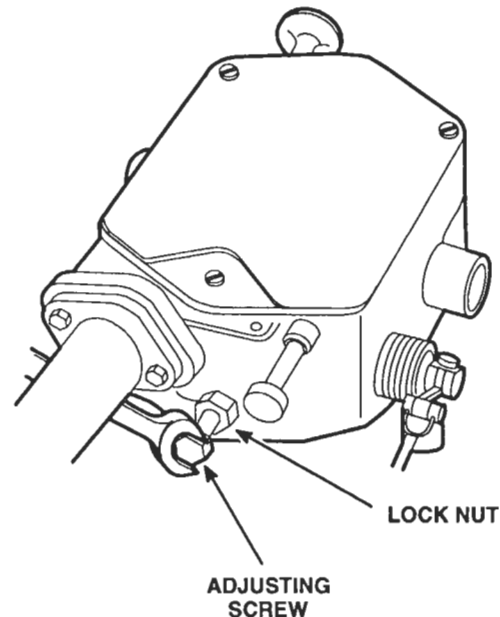

Figure 5. Setting Maximum Speed Adjusting Screw
3. Turn the maximum speed adjusting screw in lightly until contact is felt with the linkage in the governor (Figure 5.)